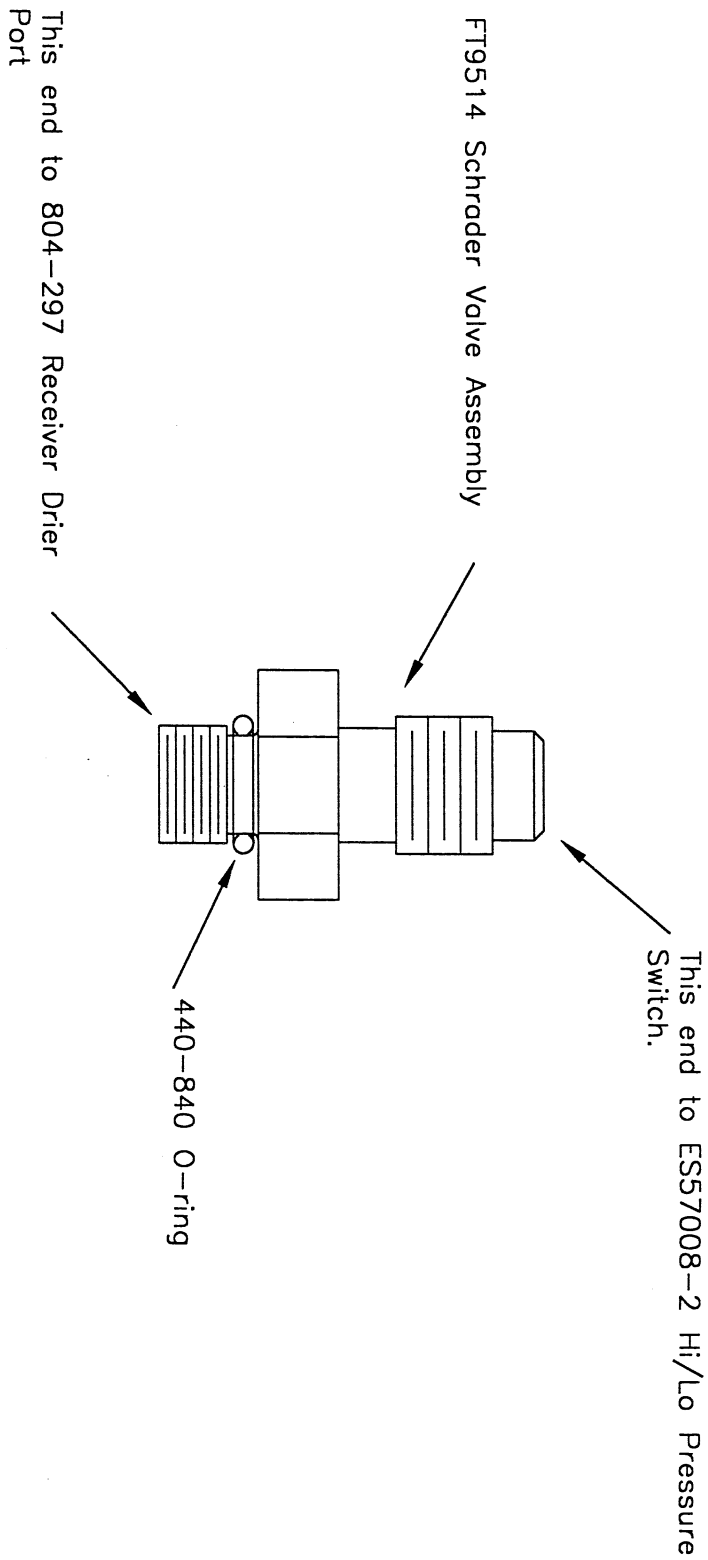

Fig. 1-2, Schrader Valve / O-ring
1. Install one (1) each 440-840 #6 O-ring & FT9514 Schrader Valve assembly in the port located on the top of the receiver drier bottle. Torque Schrader Valve assembly 40-55 in lbs. (See Fig. 1-2)